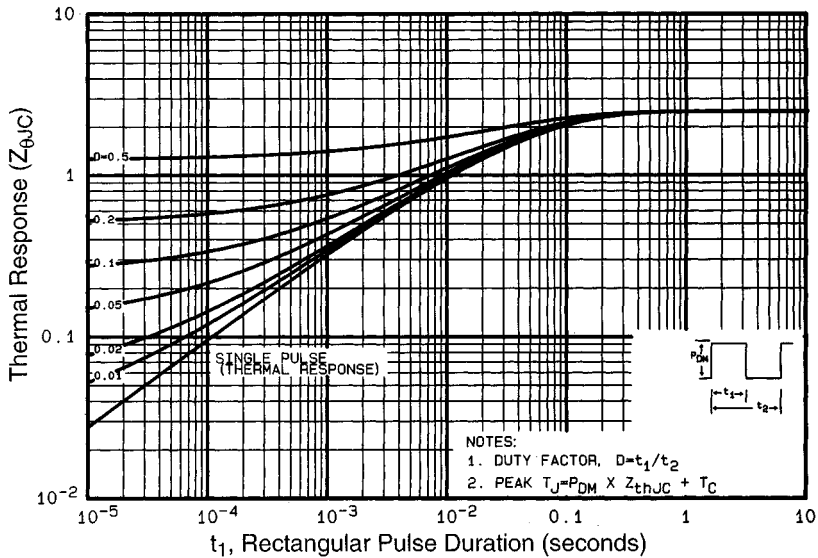

Fig 11. Maximum Effective Transient Thermal Impedance, Junction-to-Case
- ① Repetitive rating; pulse width limited by max. junction temperature. (See fig. 11)
- ② $V_{DD} = -25V$, starting $T_J = 25^\circ\text{C}$, $L = 2.3\text{mH}$